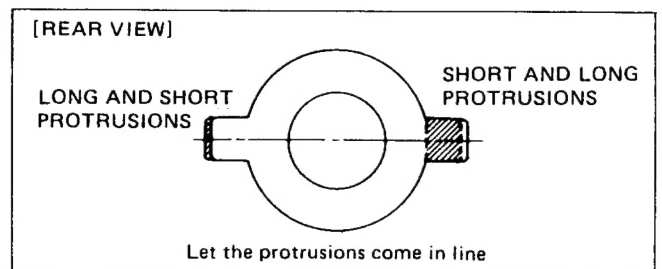

Fig. 2-2
2. Let the PURITY MAGNET TABS come in line horizontally. A long tab should be in the same direction as the other short tab. (Fig. 2-2).